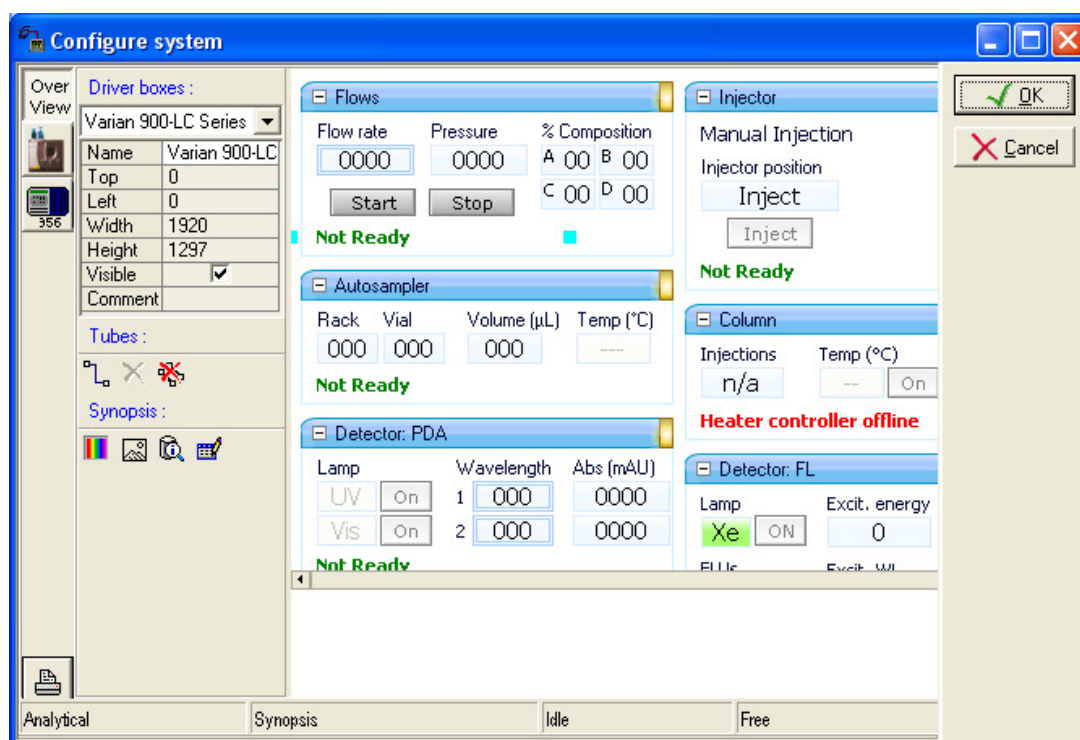

Figure 19 The driver has been started and the various tiles showing the configuration appear.
4. The driver window appears after approximately 0.5-1.0minutes showing the various aspects of the configuration (*Fig. 19*). Click on the instrument icon on the left hand side.